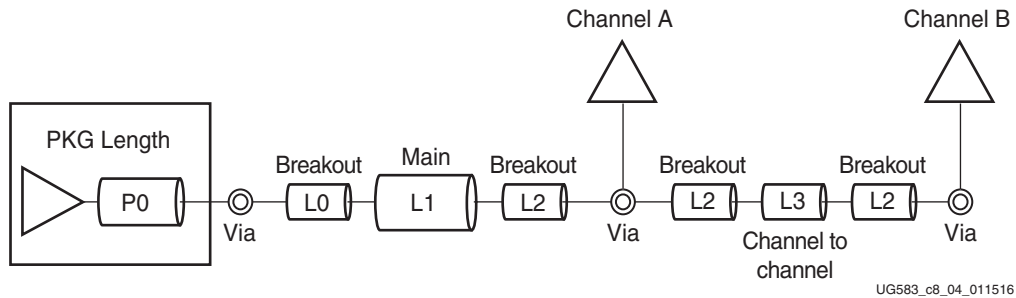

Figure 2-39: Chip Select Routing for LPDDR4 without ECC
- See item 2 in General Memory Routing Guidelines.
Figure 2-39 shows the chip select (CS) routing for the LPDDR4 interface without ECC.
| CS P0+L0+L1+L2+L3           | <a href="#">Figure 2-39</a> | 6.8                                 |